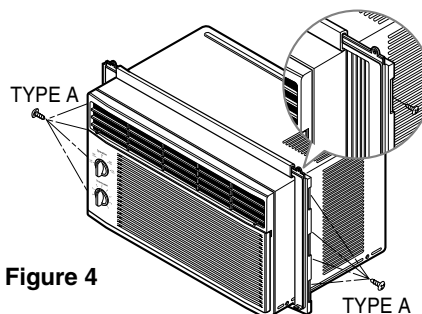

Figure 4
1. Insert the guide panels into the guides of the air conditioner. Fasten the curtains to the unit with screws (TYPE A), as shown Figure. 4.